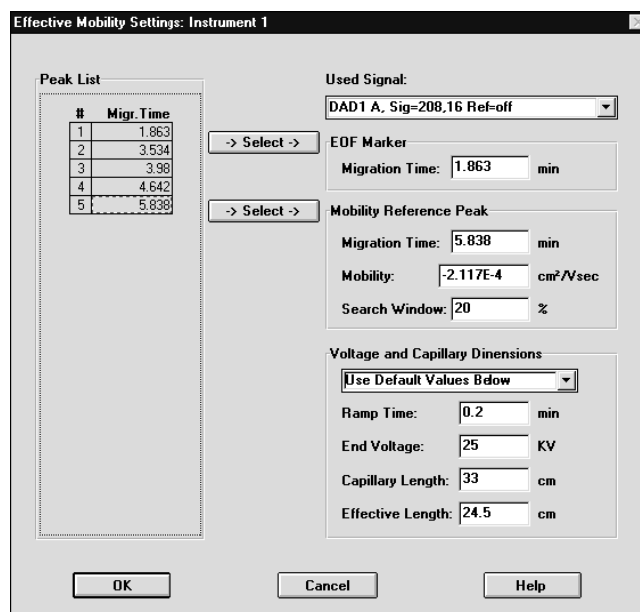

Figure 4
❹ In the **Effective Mobility Settings** dialog box, select a signal from the drop down list.
❺ From the **Peak List**, highlight the line that contains the migration time of the **EOF Marker** and choose **Select** (Figure 4).
❻ From the **Peak List** highlight the line that contains the migration time of the **Mobility Reference Peak** and choose **Select**. The mobility reference peak should be chosen in accordance with the following priorities:
❼ Choose **Use Values from Data File** if you stored the values for voltage and capillary dimensions with the data file or choose **Use Default Values Below** if the information is missing. In the latter case enter **Voltage and Capillary Dimensions**.
❸ Choose **OK**.